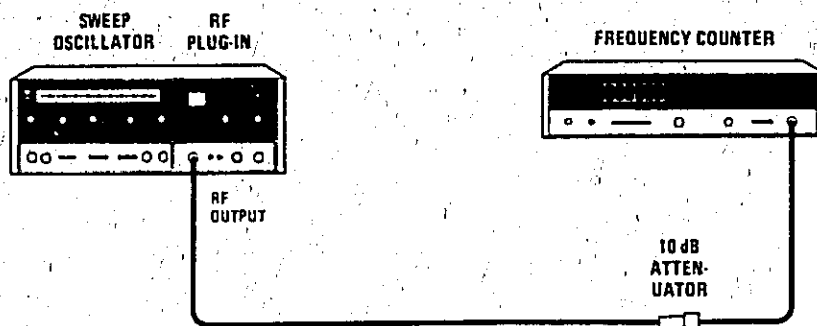

Figure 4-1. CW Vernier Test Setup
- Connect equipment as shown in Figure 4-1.